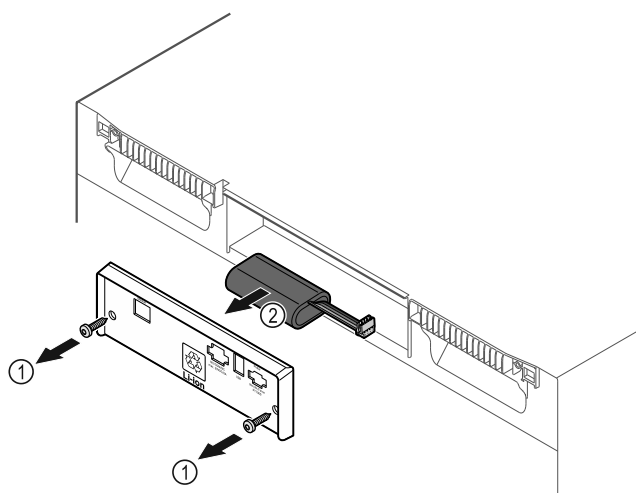

Fig. 204
- ▶ Unscrew screws and remove cover from the back of the appliance Fig. 204 (1).
- ▶ Disconnect and remove battery Fig. 204 (2).